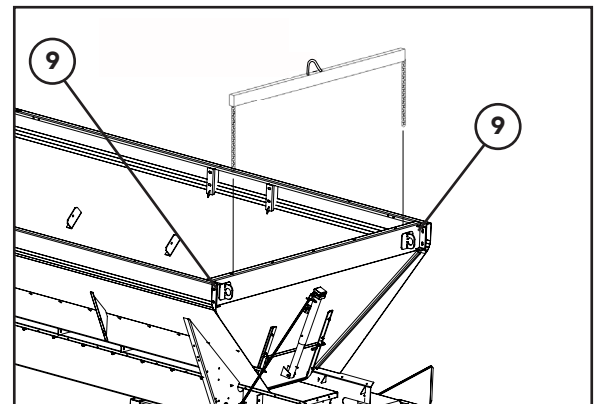

Figure 3
6. Figure 3 - Support endgate by attaching a hoist to the lift hooks. Remove hardware (9) from both sides of the endgate and carefully remove from the spreader.